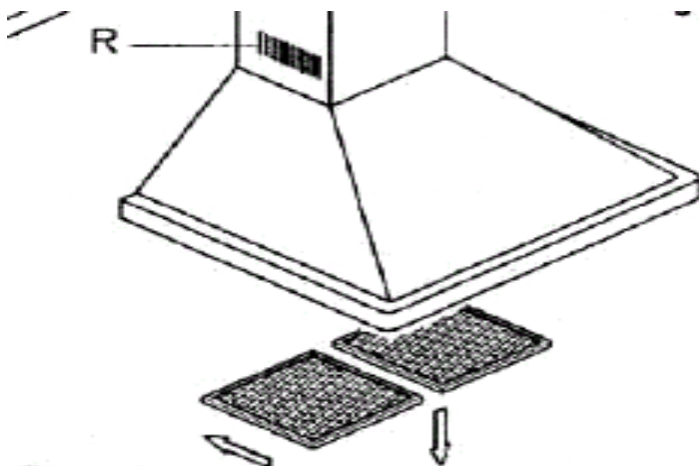

Fig. 2
- ✓ Remove the metal anti-grease filters (see Figure 2 below) and find the old bulb located in the light fixture up inside the exposed canopy. Change the incandescent bulb using only olive-shaped spares with an E14 coupling, max. 40W.
- 1) Press the handle of the metal grease filter towards the rear part of the unit until it is released from the front housing, and remove it by pressing downwards (Fig. 2 - below).